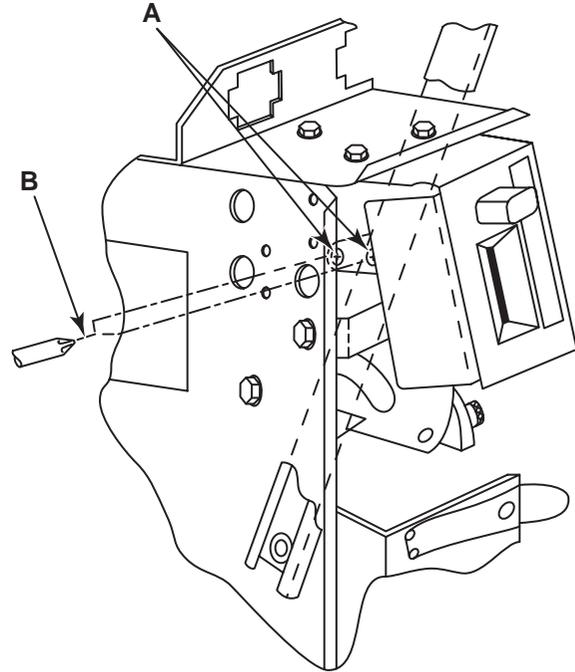

Figure 3-8. Bill Return Switch Adjustment
Refer to *Figure 3-8* for this service check and adjustment. This switch must be in the actuated condition (the plunger is pushed in) when the machine is in standby and the BILL AND COIN RETURN button not depressed.
3. Insert a small (#1) Phillips screwdriver through the side of the partition as shown in *Figure 3-8*, reference *B* and loosen both of the return switch mounting screws. Loosen the mounting screws only enough to allow the front end of the switch to rotate freely.